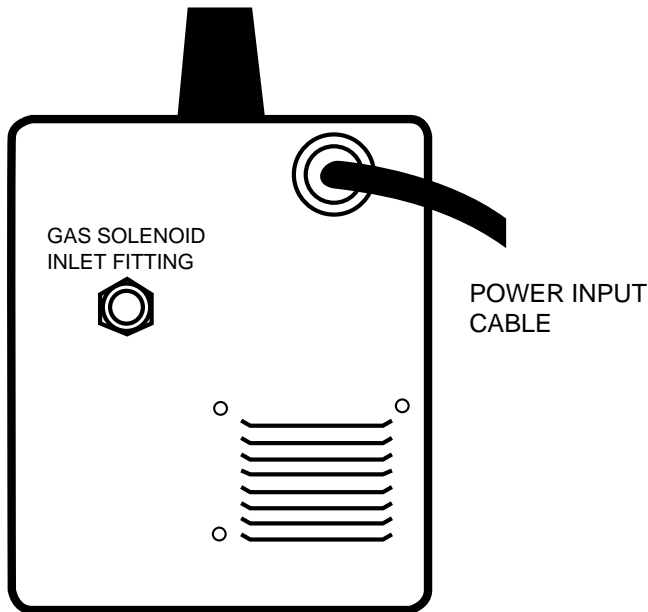

FIGURE A.6
4. Refer to Figure A.6. Attach one end of inlet gas hose to the outlet fitting of the flow regulator and tighten the union nut securely with a wrench. Connect the other end to the WELD-PAK 3200HD Gas Solenoid Inlet Fitting (5/8-18 female threads — for CGA —.032 fitting). Make certain the gas hose is not kinked or twisted.
Refer to Figure A.6.